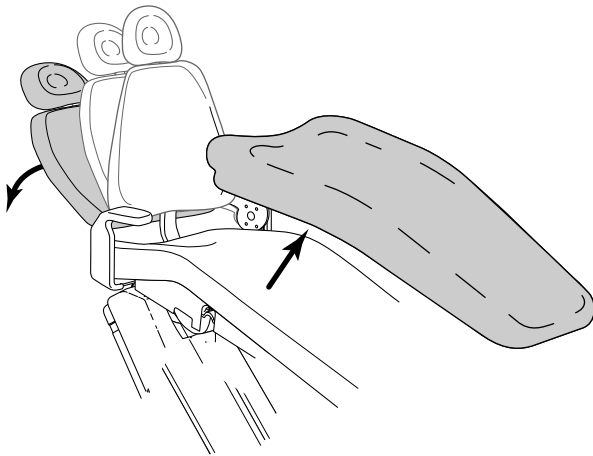

FIGURE 1
1. Raise the chair base and lower the chair back (see *Figure 1*).